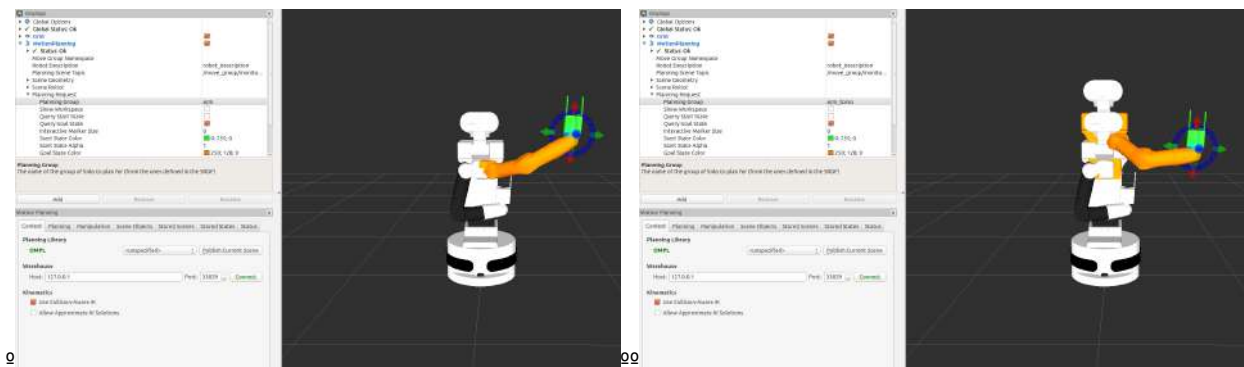

Figure 121: *MoveIt!* graphical interface in rviz. TIAGo with the planning group *arm* (left) and with the planning group *arm\_torso* (right).
2. *MoveIt!* uses planning groups to generate solutions for different kinematic chains. Figure 121 shows that by selecting different planning groups, the GUI shows only the relevant “flying end-effectors”.